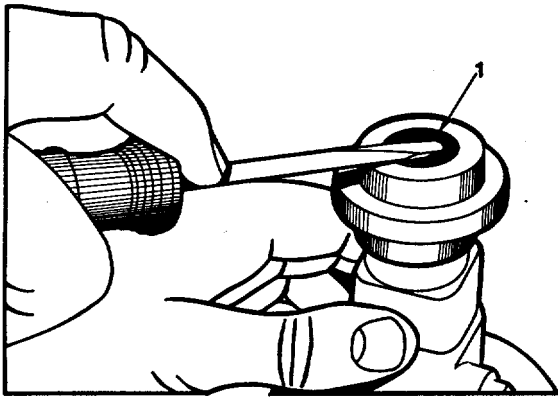

Fig. 24 Removing Lower Oil Seal
2. On distributors for V-537 engine, use a screwdriver to pry oil seal out of lower end of distributor housing (Figure 24)